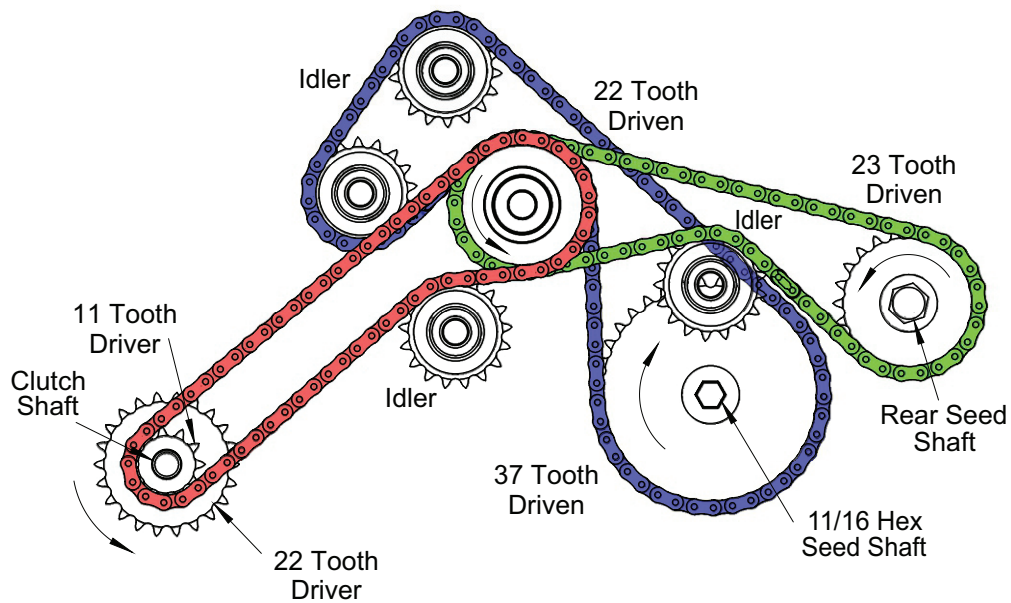

Figure 3-14: Front and Rear Seed Box Transmission Drive (After 01/2020)
5. Turn 11/16 hex Seed Shaft on the Transmission Clockwise(CW). **See Figure 3-14.**